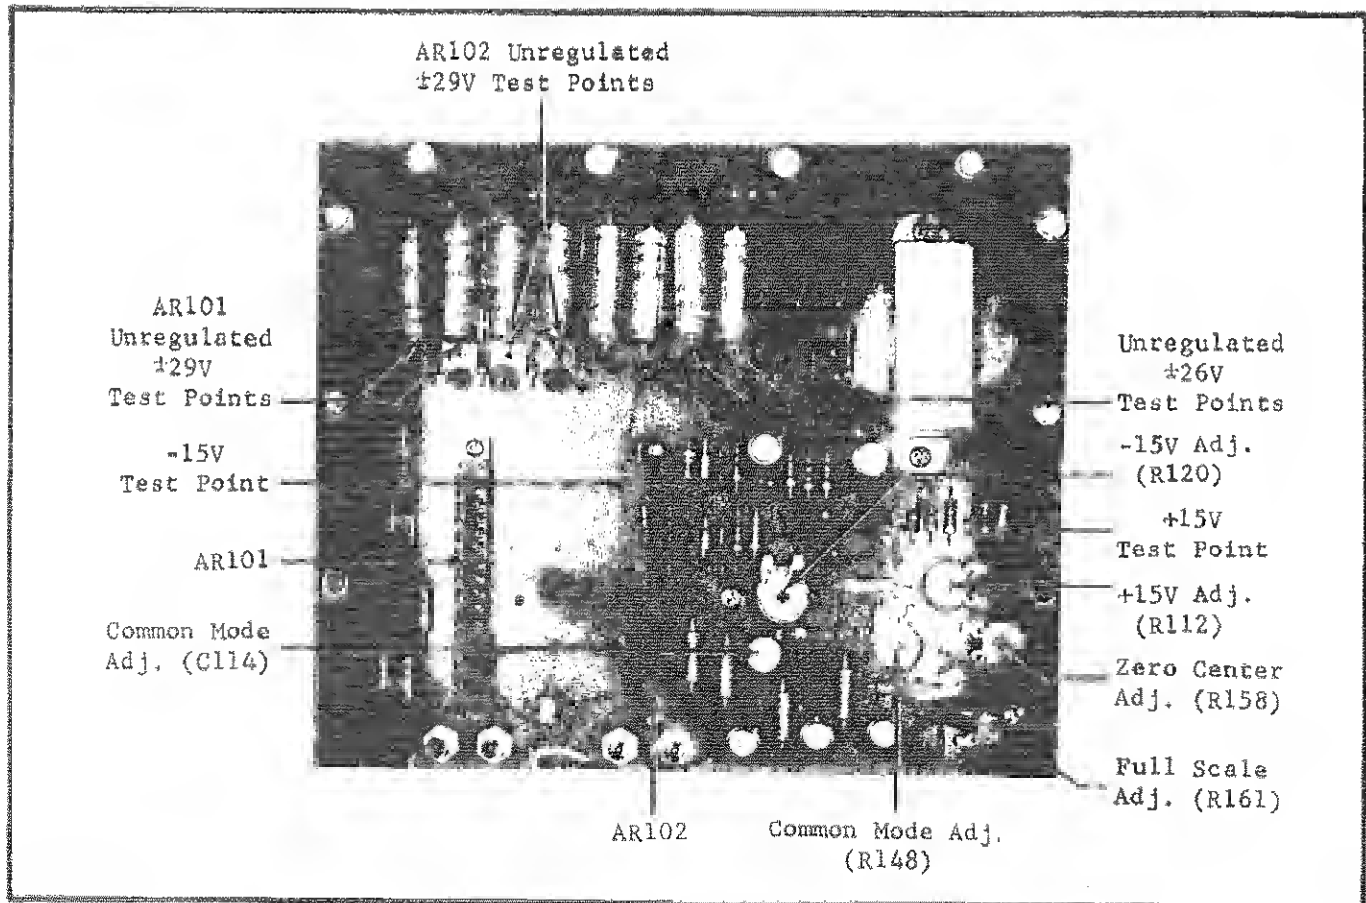

FIGURE 11. Location of Voltage Supplies Test Points (see paragraph 4-3).
a. Connect the Tektronix Model 561 Oscilloscope between the Model 604 chassis and the proper test points shown in Figure 11 for performing the power supply checks.